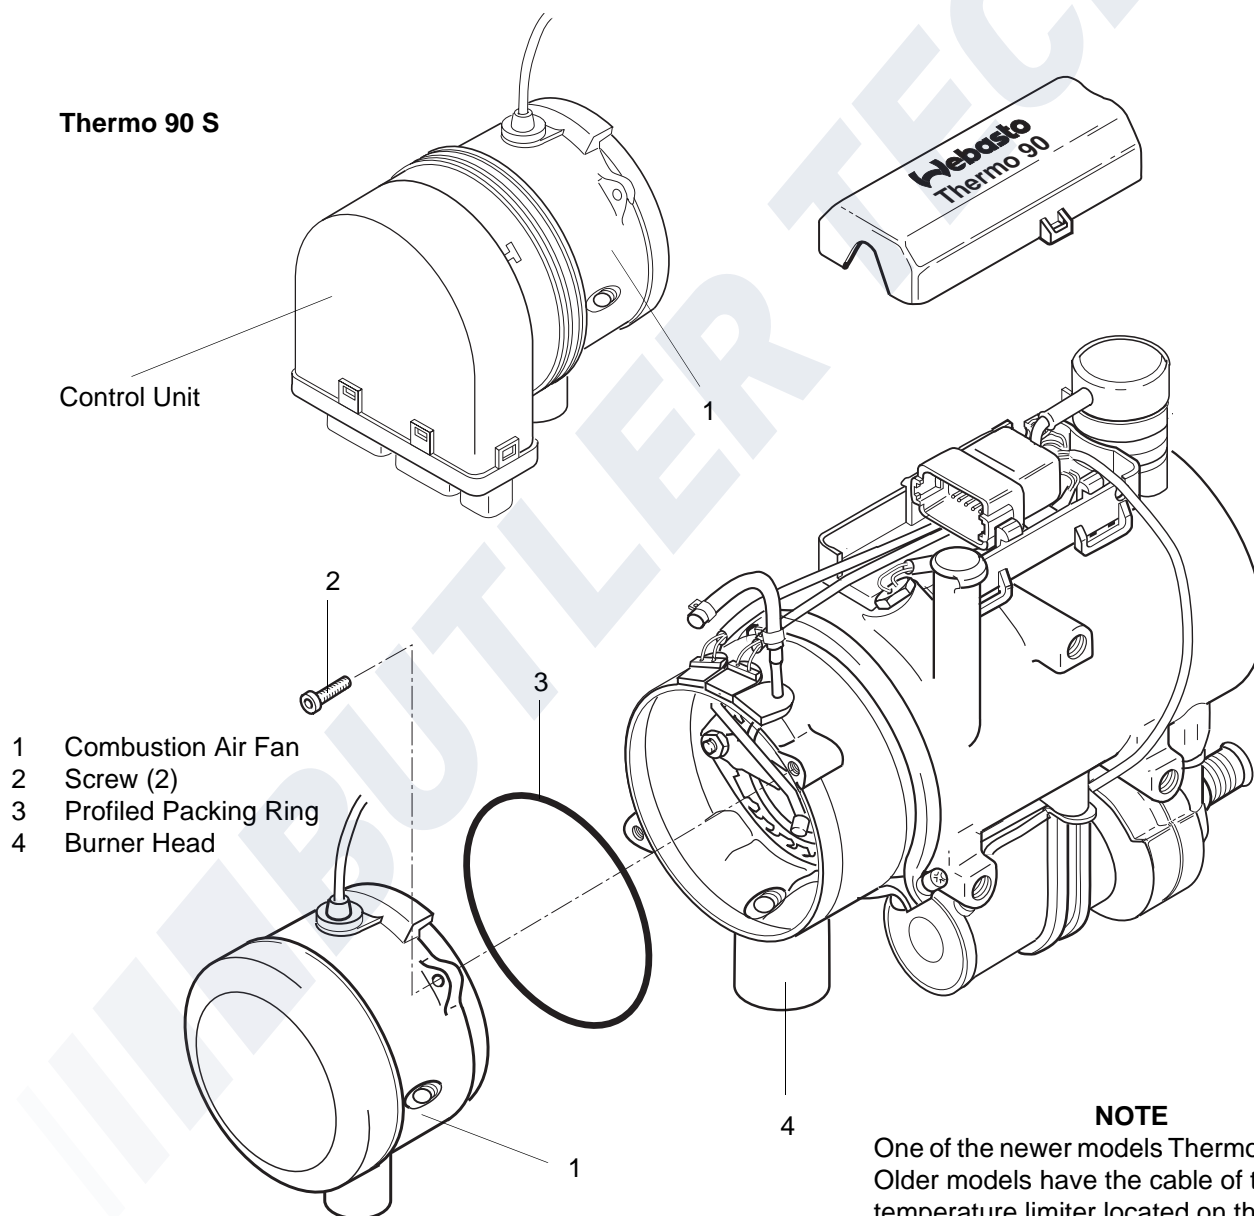

Fig. 904 Replacement of Combustion Air Fan
1. Apply acid free grease (Vaseline) to O-ring (5, Fig. 904).
2. Screw temperature sensor (6) with O-ring (5) into heat exchanger (4) and torque tighten with $1.5 \text{ Nm} \pm 10\%$.
3. Remove screws (2, Fig. 904).
4. Pull combustion air fan (1) from burner head (4) and remove together with profiled packing ring (3).
Locate packing ring (3, Fig. 904) properly; do not squeeze.